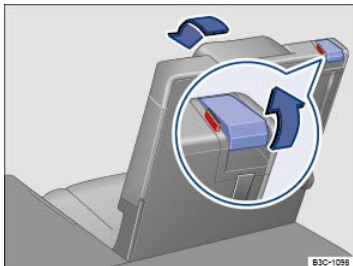

Fig. 87 In the third row: Lever to release the third row seat backrest.
- A red indicator on the release lever ⇒ Fig. 87 shows that the backrest is not securely latched in the upright position. The red indicator is not visible when the backrest is securely latched.
- Pull the release lever ⇒ Fig. 87 completely upwards to unlock the third row seat backrest.
- When the backrest is securely latched, the red indicator on the release lever ⇒ Fig. 87 will no longer be visible.
- A red indicator on the release lever ⇒ Fig. 87 shows that the backrest is not securely latched in the upright position. The red indicator will not be visible when the backrest is securely latched.